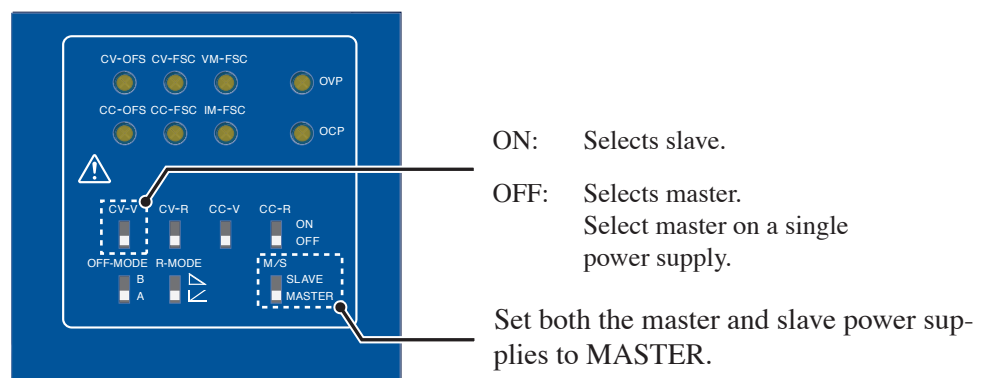

Fig. 4-17 Master-slave series operation setup
5. Set the CV-V switch on the master and slave power supplies as shown in Fig. 4-17.